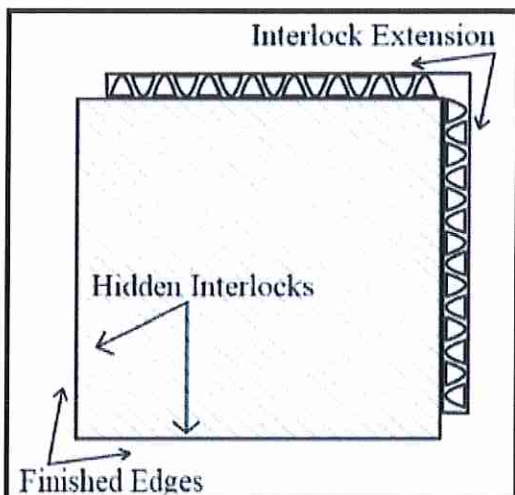

Figure 1 Free Style Tiles
The interlock system uses two "Interlock Extensions" that are visible from the top of the tile, and two (2) "Hidden Interlocks" under the Finished Edges that are visible from the bottom of the tile. (See Figure 1) To install, you will mate the Hidden Interlocks on one tile with the Interlock Extensions on adjacent tiles.
Like all tile products, layout planning begins by finding the center of the room or area to be covered and establishing lines to guide your layout. Unlike ceramic or vinyl tile products, FreeStyle installations should start in a corner of the room with the Finished Edges (See Figure 1) facing the walls. Use the steps outlined below to establish Control Lines and the Starting Point for your installation. Using these methods will provide an installation with balanced cut rows along each wall. Start the process along your longest straightest wall. Determine which corner will be your starting point. Do not start in a corner with a doorway. **Failure to carefully maintain a straight line on the first row of the installation will cause difficulty in the installation, particularly in large areas.**
- Carefully mark a point at the Finished Edge of the last tile. Note: You must mark that line at the Finished Edge of the tile, not at the edge of the Interlock Extensions (See FIGURE 1)